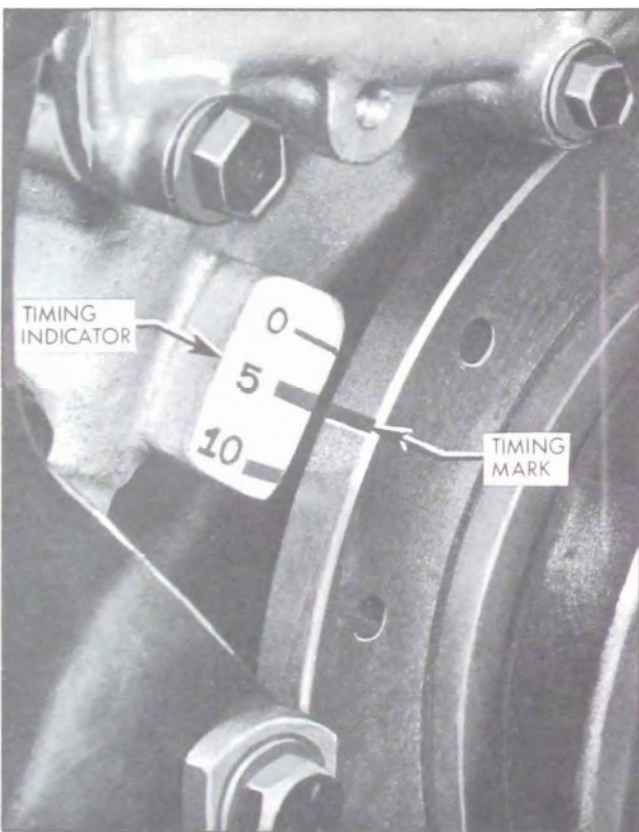

Figure 10-34—Ignition Timing Mark and Indicator
The timing mark is a groove filled with yellow paint, which is on the rear edge of the harmonic balancer. The timing indicator, a part of the timing chain cover, has three ridges outlined with yellow paint. These ridges indicate U.D.C. (marked "0"), "5" degrees, and "10" degrees before U.D.C. See Figure 10-34.
1. With left rocker arm cover removed, rotate crankshaft in a forward direction using a suitable wrench on the harmonic balancer to crankshaft bolt. Continue rotation until both valves for No. 1 cylinder are completely closed and the timing mark on balancer is aligned with the proper mark on timing indicator. See Figure 10-34. No. 1 cylinder is now in position to fire.